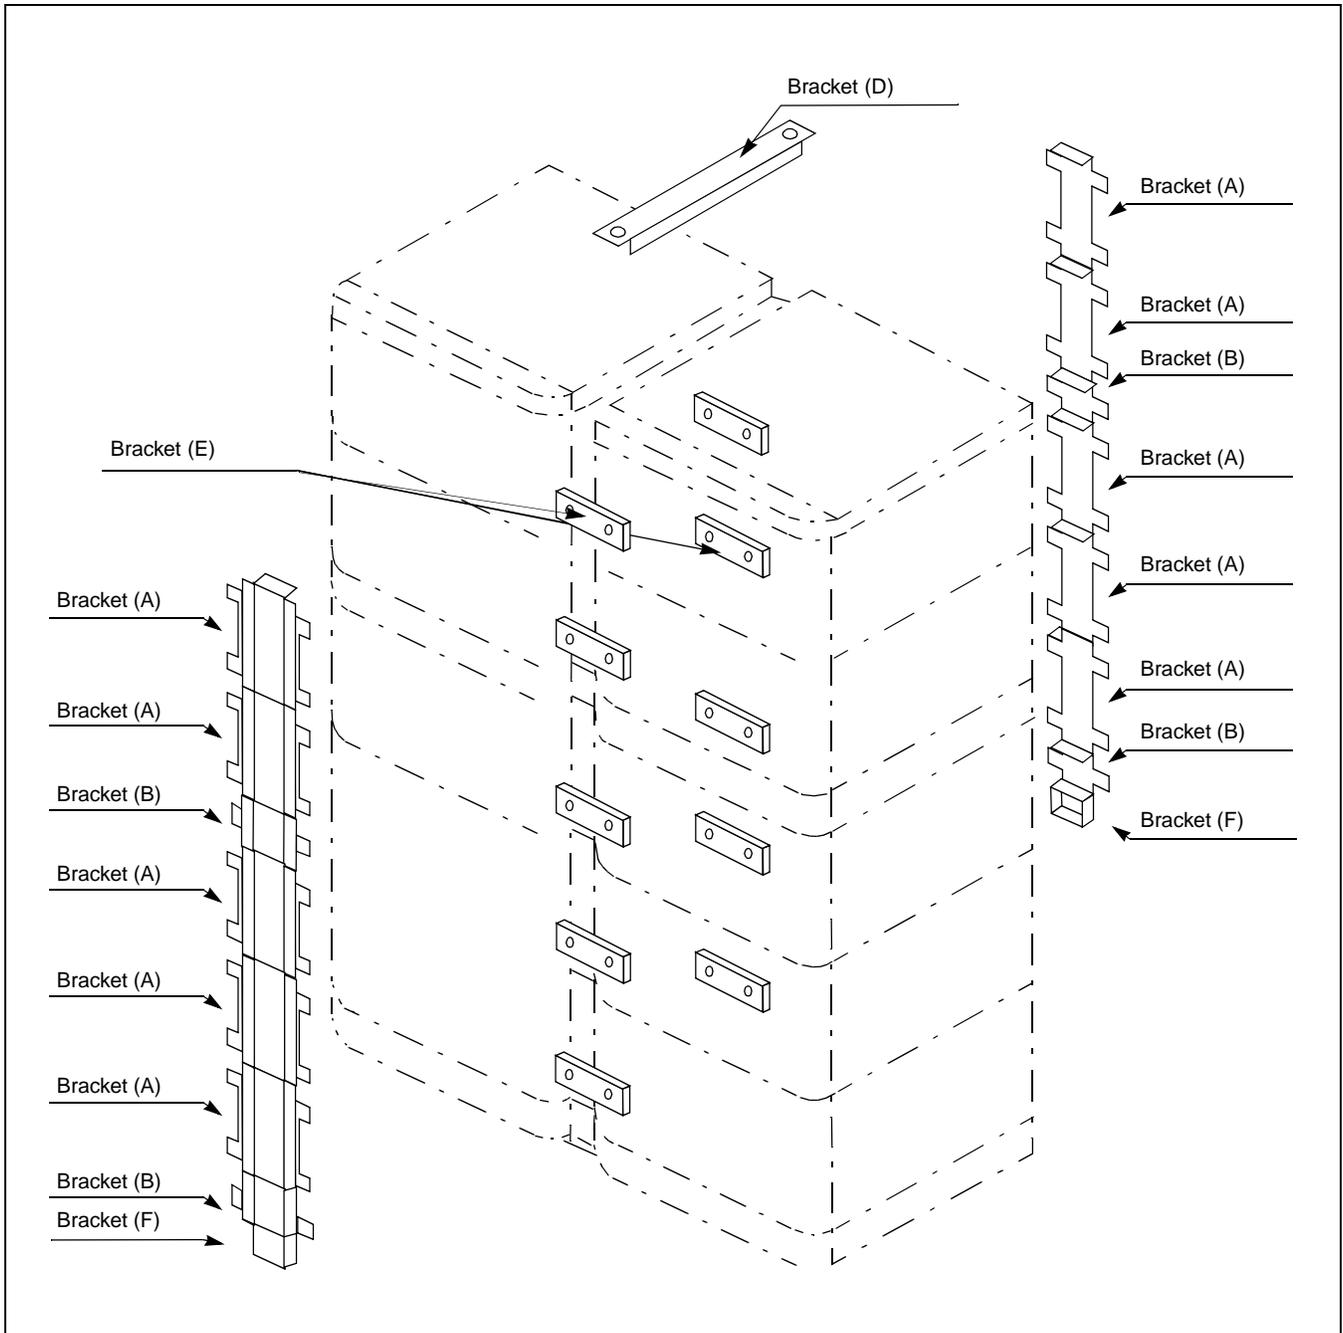

Figure 7-13 How to Attach Inter-frame Brackets (3 of 3)
STEP 4: Referring to Figure 7-13, fix the brackets (D) with the two screws.